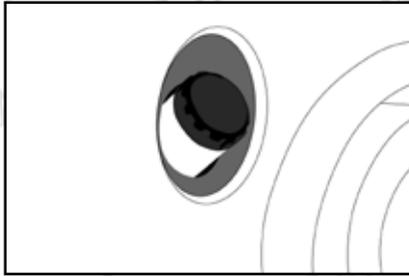

Fig.6
The water inlet filter must be inspected regularly, so as to avoid blockage and restriction in the water supply to the pump. **(fig.6)**
1. Add Detergent to the container **(fig.6)**